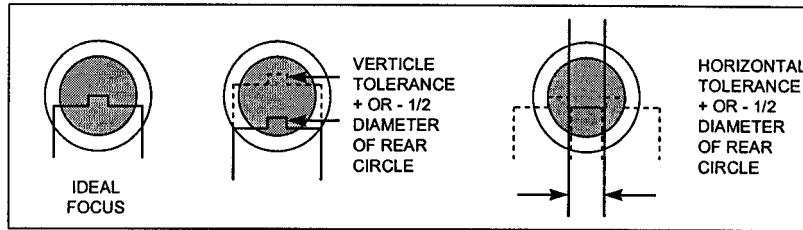

Figure 2-18
- i. Observe the focus fixture. Is it right or left or low? If so, turn one of the two focus screws not aligned with the sighting marks until the focus fixture is centered. See Figure 2-18.
- j. If the focus fixture is above the sighting marks, turn each focus screw two (2) or three (3) more complete turns until it is either below it or right on.